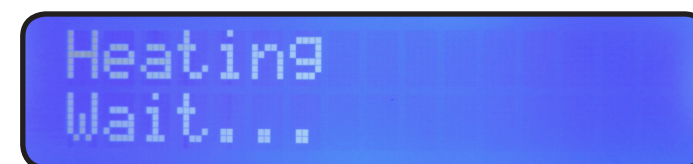

Figure 18. Correctly placing the urine sample card in the DrugSIP® Multi Analyzer
6. Once these steps have been carried out, the Urine DrugSIP® Cassette sample is ready to be analyzed by the DrugSIP® Multi Analyzer device. **The QR code must be visible before placing the kit inside the device.** The detection kit should be as shown in Figure 18. If the QR code is not visible, the screen shows the message “Check card” and the device must be restarted.